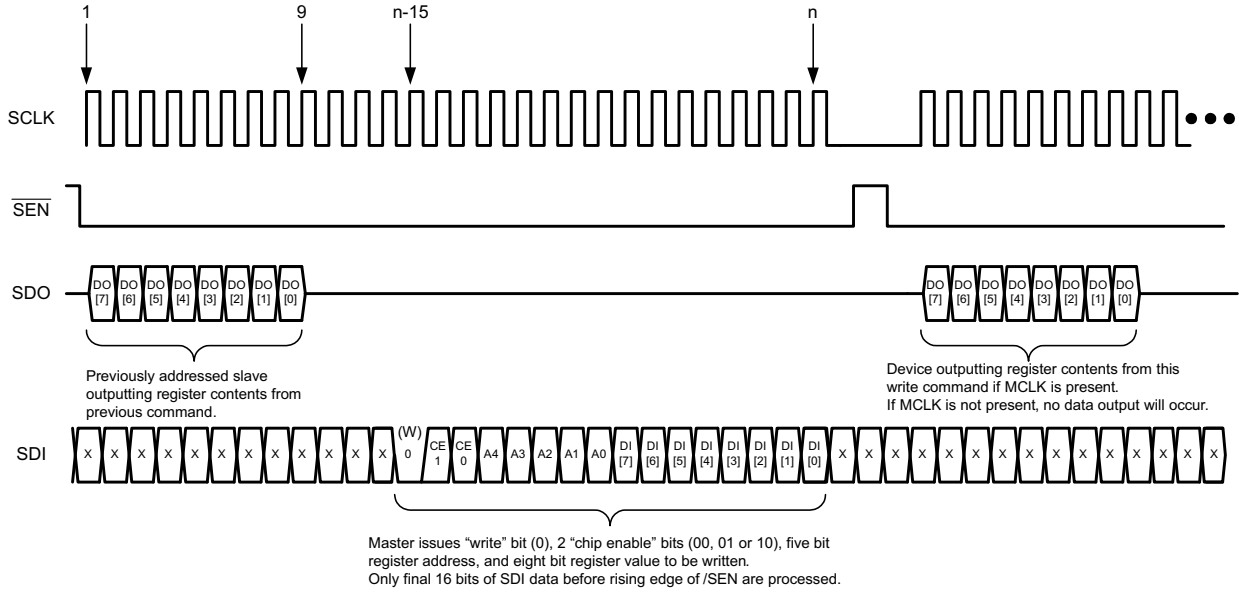
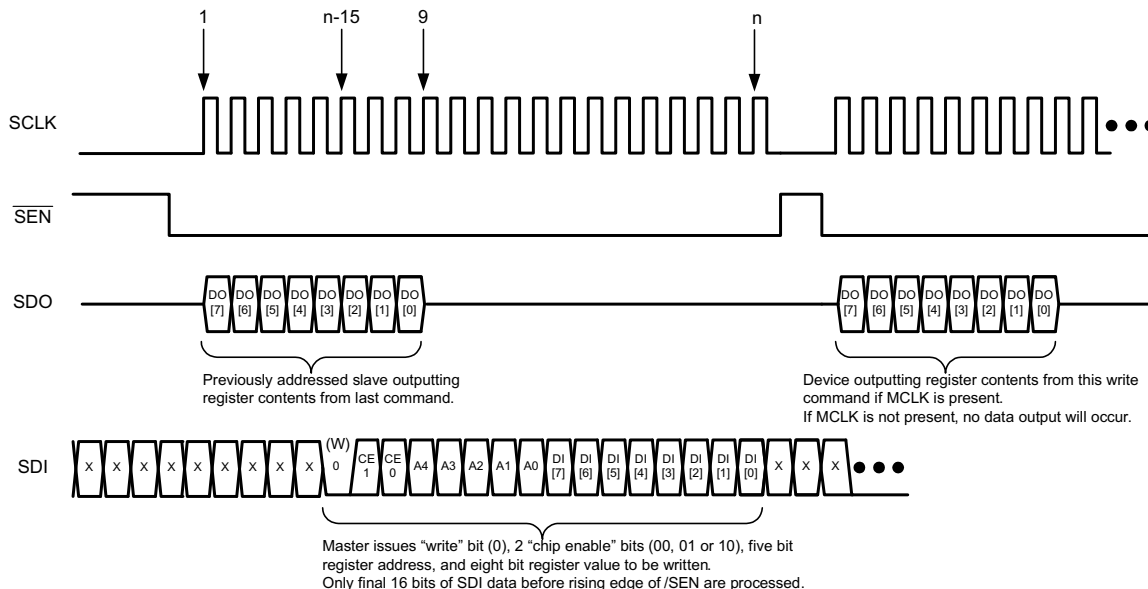

Figure 65. Serial Write - 4 Wire Connection - 25+ Clock Mode
Figure 67. Serial Write - 4 Wire Connection - 16+ Clock Mode
- **Clockless (MCLK stopped) Mode (always enabled if MCLK stopped)** - When the input MCLK is stopped, Data Read operation is exactly the same as MCLK present mode. The Data Write operation no longer provides a free readback of the previously written data. See Figure 65 and Figure 67.